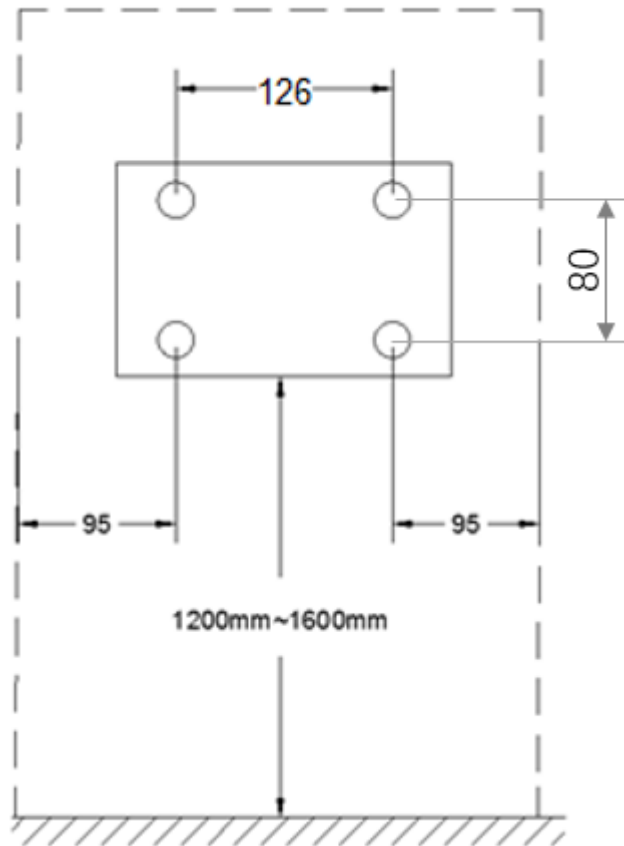

Figure 3-10 Marking anchor points
(1) Anchor bolts (2) Installation bracket (3) Square washer (6) Main bracket
Step 2: Place the installation bracket against the wall, use a level to verify that the installation bracket is placed horizontally, and then mark anchor points with a marker, as shown in **Figure 3-10**.